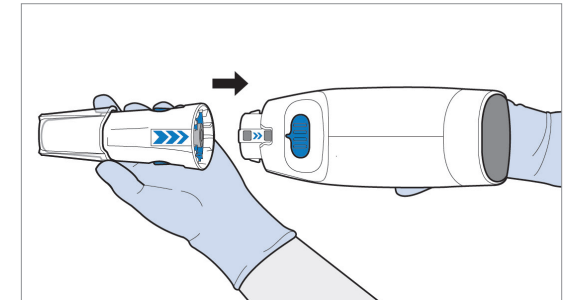

Figure 41 Attach Array to Handset
18. Attach the assembled Array with Drug Cartridge to the Handset (see Figure 41).